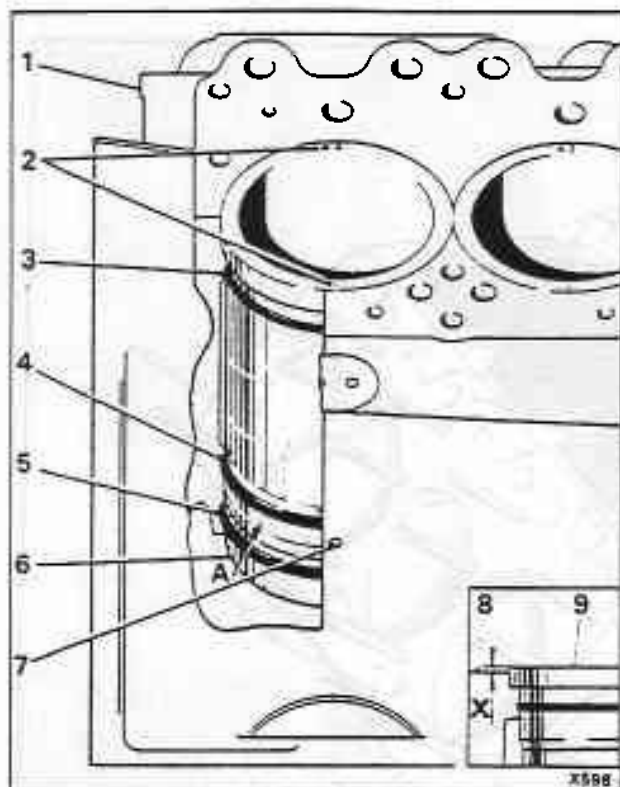

Fig. E4-2 Cylinder liner in position
The centrifugally spun cast iron liners are sealed by a single rubber 'O' ring at the top and by two rubber 'O' rings at the bottom (see fig. E4-2).
from the 'tell-tale' hole, the lower sealing ring is leaking. In either case, the appropriate liner should be removed and new sealing rings fitted into the crankcase (see fig. E4-2).
To obtain the correct 'nip' carry out Operations 6 to 9 inclusive (see fig. E4-2).
9. Before fitting a cylinder liner into a crankcase always ensure that the bore number is etched onto the top face as shown in figure E4-2. Other information that is etched onto the top of the liner includes the piston grade letter (always ensure that the cylinder
12. Fit the cylinder liner into the crankcase bore ensuring that the cylinder bore reference etched on the top face of the liner is positioned at the top (i.e. nearest point to the camshaft) as shown in figure E4-2.